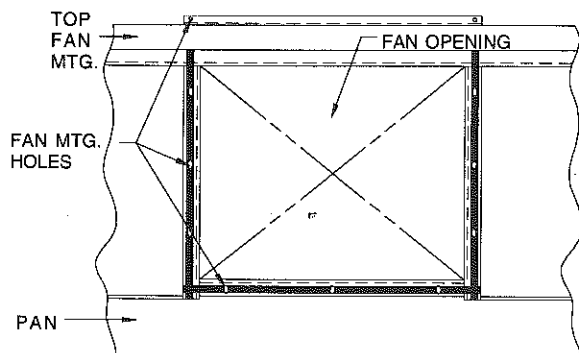

Figure 4a.
2. Take mastic from parts box and place mastic on coil section unit body as shown in Figure 4a.